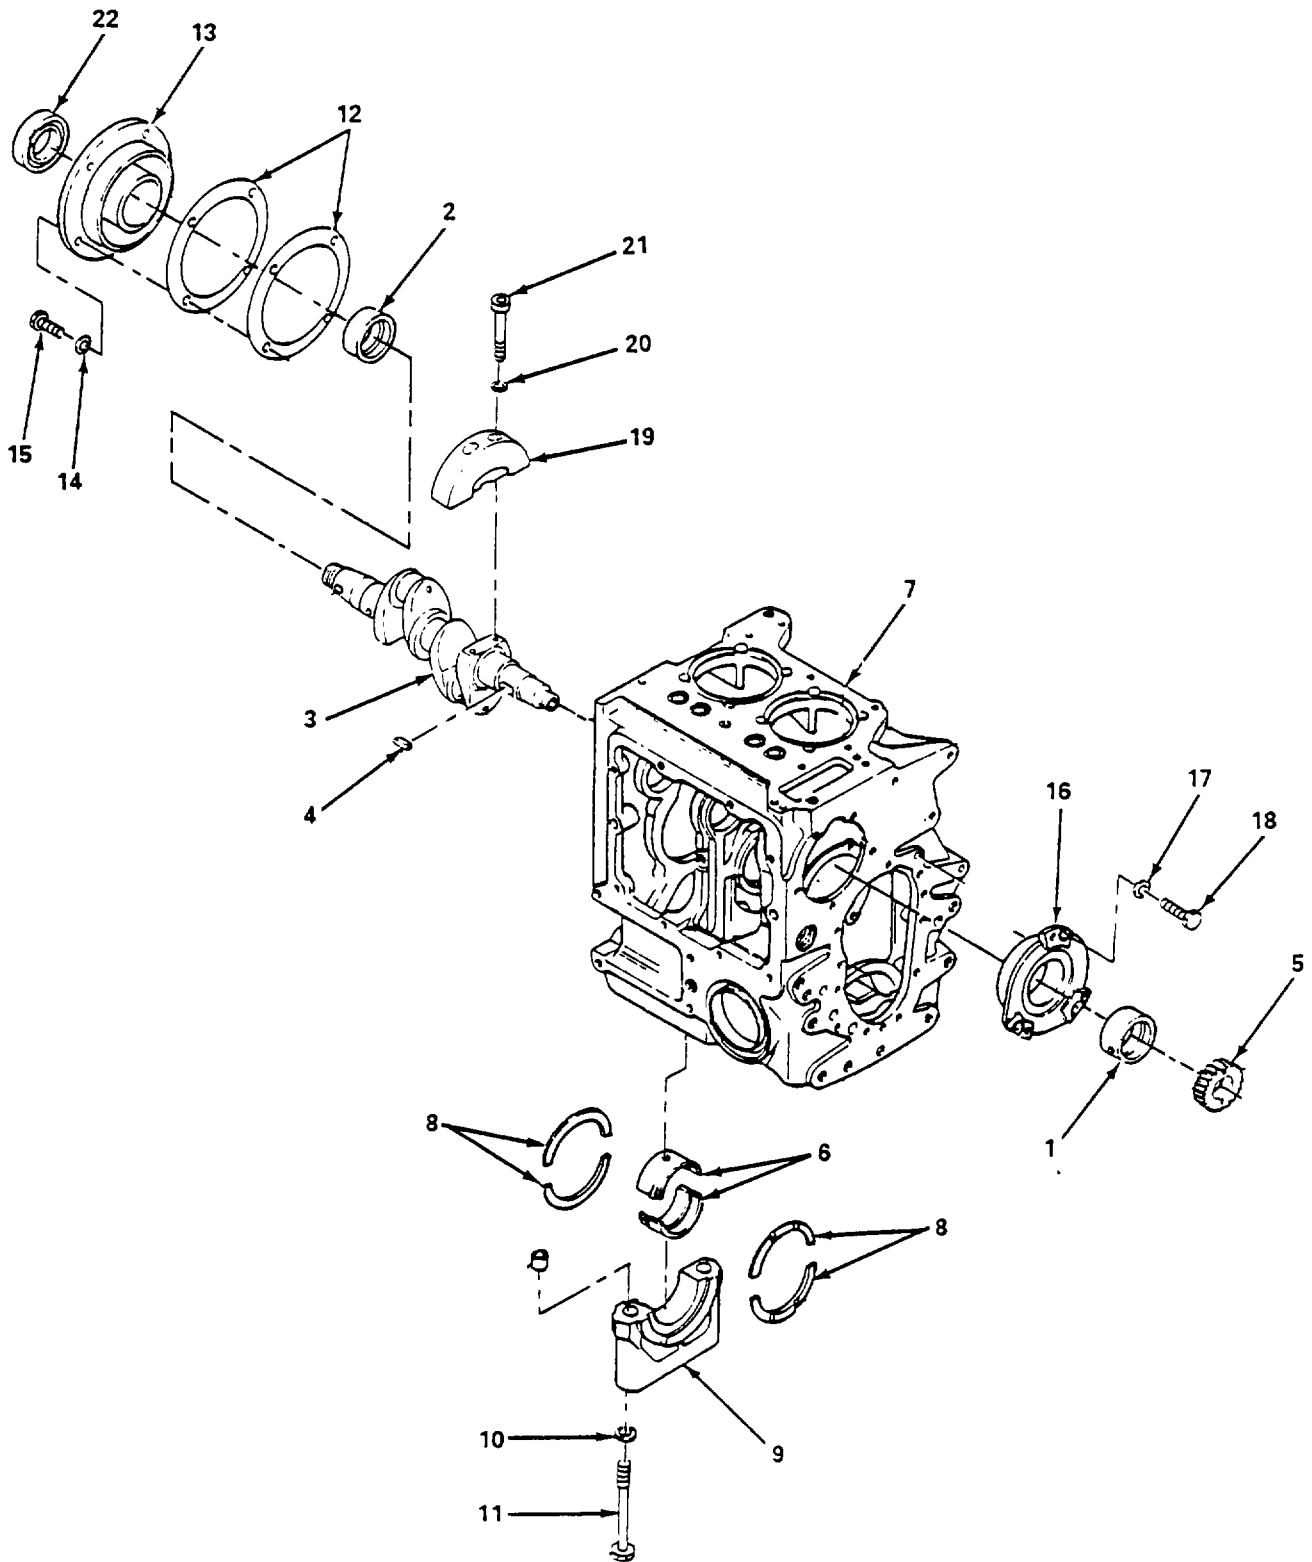

Figure 6-24. Crankshaft, Installation.
(3) *Installation.* (figure 6-24)
- (a) Install bearing bushing (1) and (2) on crankshaft (3).
- (b) Install key (4) in crankshaft (3) and install gear (5) on crankshaft (3).
- (c) Install half of main bearing (6) in crankcase (7), ensuring the identification marks are correct.
- (d) Apply grease to thrust ring halves (8) and install them by the smooth faces to the bearing web and bearing cap (9).
- (e) Apply oil to crankshaft (3) journals and install crankshaft in crankcase (7) from flywheel end of engine.
- (f) Install the other half of bearing (6) on bearing cap (9).
- (g) Install two washers (10) and bolts (11). Tighten bolts using gage per appendix F.
- (h) Apply sealing compound to gaskets (12) and install on bearing housing (13).
- (i) Apply oil to rear journals on crankshaft (3).
- (j) Using press-in-device, install bearing housing (13) on crankshaft (3).